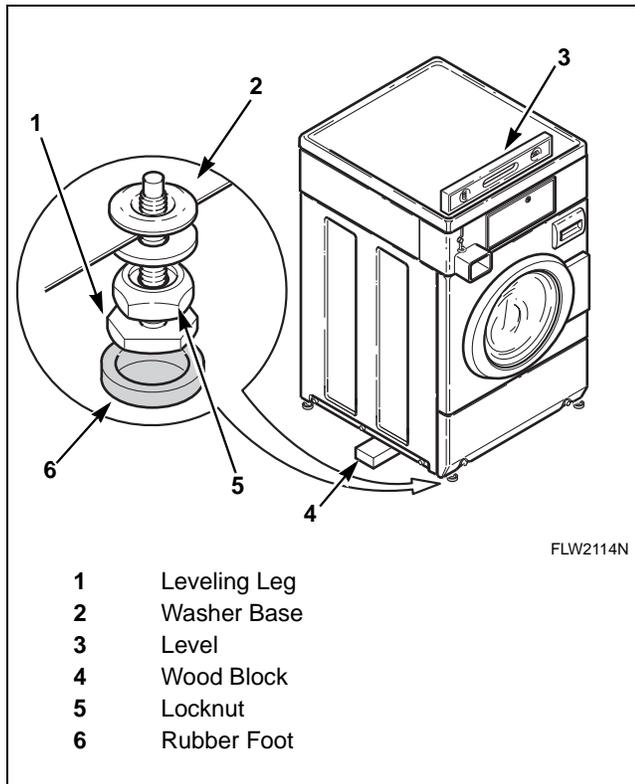

Figure 3
**NOTE:** Level must rest on raised portion of top panel. Refer to *Figure 3*.
If washer is not level, tilt washer to access the front and rear leveling legs. For easier access to leveling legs, prop up washer with a wooden block. Refer to *Figure 3*. Loosen 7/8 in. locknut and adjust legs until the washer is level from side to side and front to back (using a level). Washer should not rock.